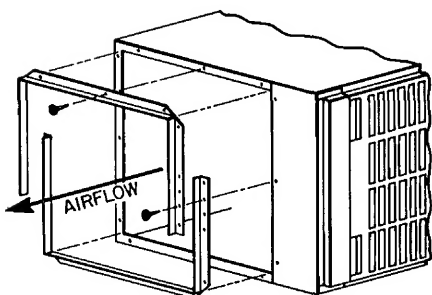

Fig. 9 — Duct Flange Installation (Field Supplied)
- a. Install duct flange kit (field supplied) as shown in Fig. 9.